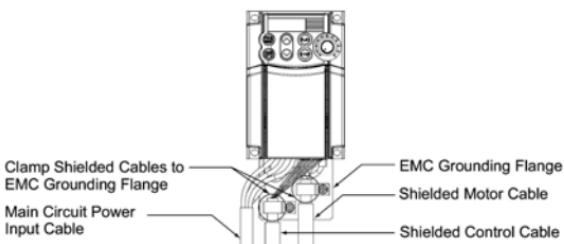

Figure 11.2 Connecting Shielded Cables
- (2) Use shielded wires for the motor cable and route it as short as possible. Firmly clamp the wire shield to the flange to ground it. Further, connect the wire shield electrically to the grounding terminal of motor. (See Figure 11.2.)
(3) Use shielded wires for the control signals of the inverter to input to/output from the control terminals. Firmly clamp the control wire shields to the EMC grounding flange (in the same way as the motor cables).